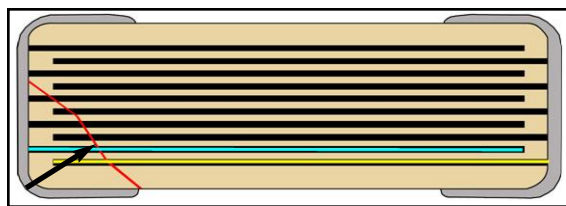

Figure 5. Yellow electrode represents (+); blue electrode represents (-); flex crack leads to short circuit.
1. Does a flex crack always lead to failure? Answer – no; as with all cracks in MLCC's, there needs to be some type of ionic penetration or humidity along the crack path which allows current to flow between electrode plates of opposite polarity, in order for the chip to fail. (See Figure 5).